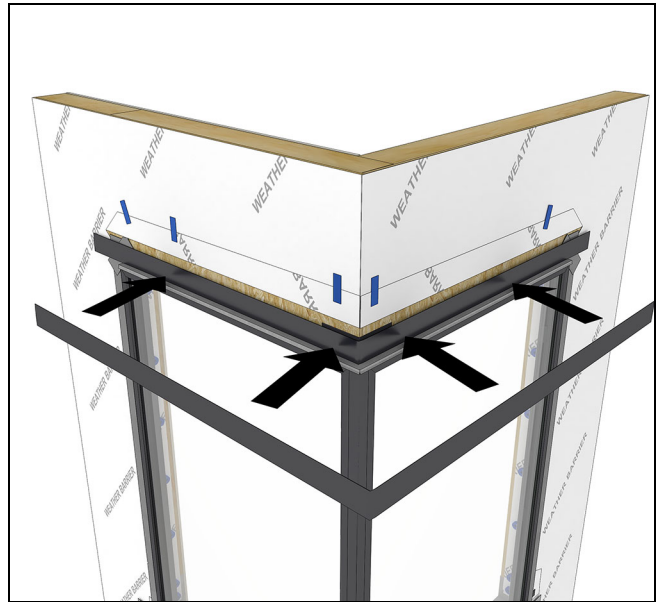

Figure 77
12. Install another layer of adhesive membrane lapping onto the head jamb of unit. Membrane flashing should extend and cover the flashing previously installed at the jambs. See Figure 77.